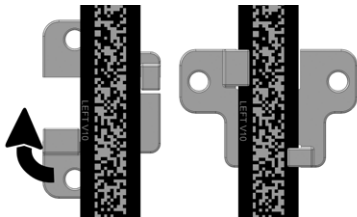

Figure 44: Guide clip is inserted (left) and turned 90° clockwise
2. Insert the code tape into the clip guide rails (Figure 44).